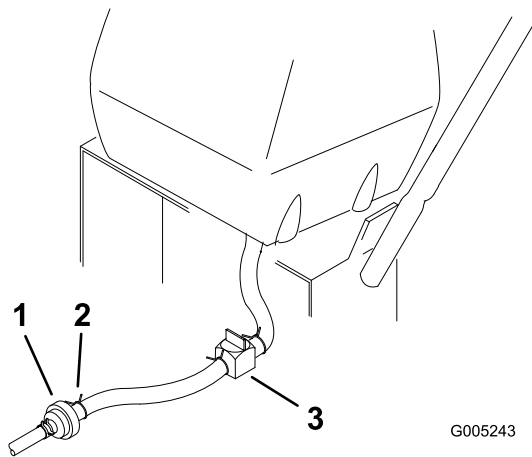

Figure 34
2. Close the fuel shut-off valve at the fuel tank (Figure 34).
3. Squeeze the ends of the hose clamp together and slide it up the fuel line away from fuel filter (Figure 34).
4. Pull the fuel line off the fuel filter (Figure 34). Open the fuel shut-off valve and allow the gasoline to drain into a gas can or drain pan.
3. Close fuel shut-off valve at the fuel tank (Figure 34).
7. Open fuel shut-off valve at fuel tank (Figure 34).